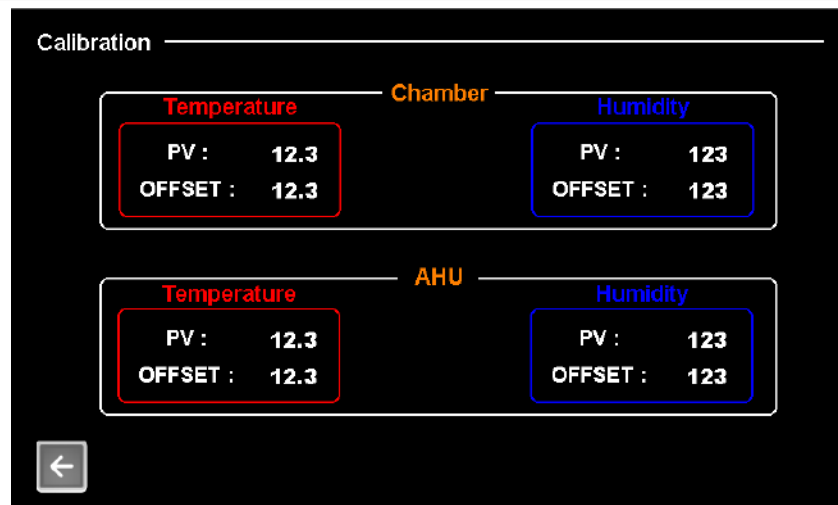

Fig. 6
■ Calibration Menu (Fig. 6)
- Device information access (Fig. 6)